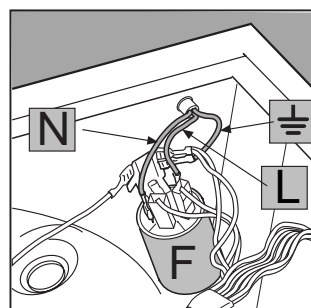

Fig. 14
3. Disconnect the wires from the radio interference suppressor F [fig. 14] noting as to their position (Blue=N wire; Brown=L wire) leaving the earth wire until last \perp .